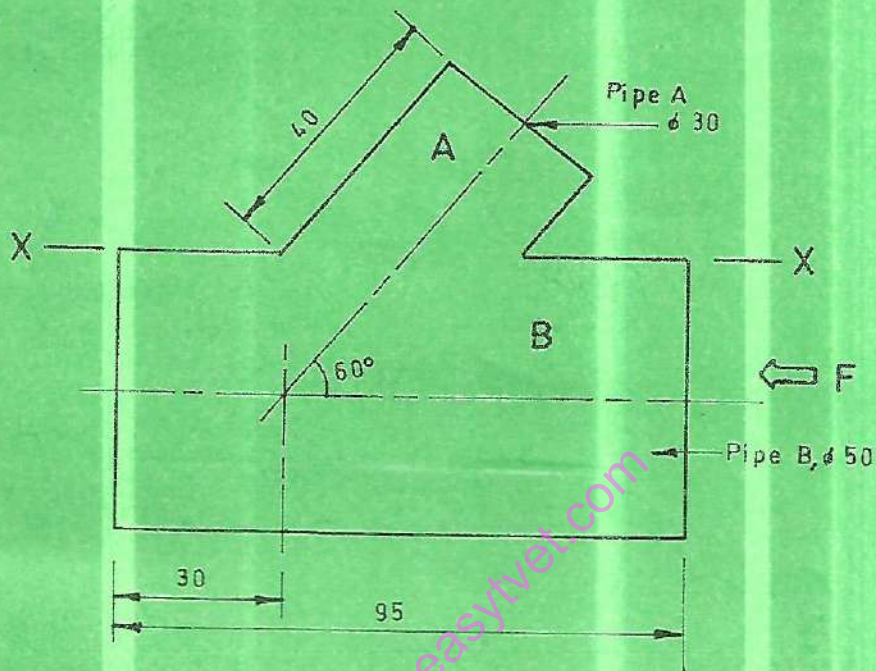

Fig. 4
4. Figure 4 shows two pipes A and B of diameters 30 mm and 50 mm respectively, interpenetrating at an angle of  $60^\circ$ . In 3rd angle orthographic projection, draw full size the following: